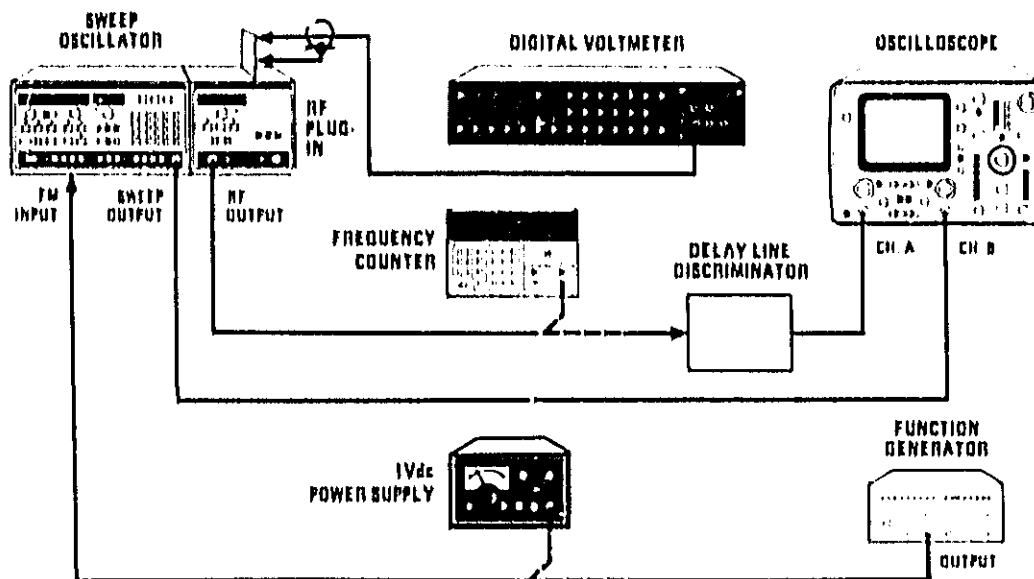

Figure 5-39. Test Setup for FM Driver Adjustments
1. Connect the equipment as shown in Figure 5-39. Connect the Frequency Counter to the 83590A RF OUTPUT connector. Do not connect the Power Supply or Function Generator to the 8350A rear panel FM INPUT connector yet. Allow the equipment to warm up for 1 hour.